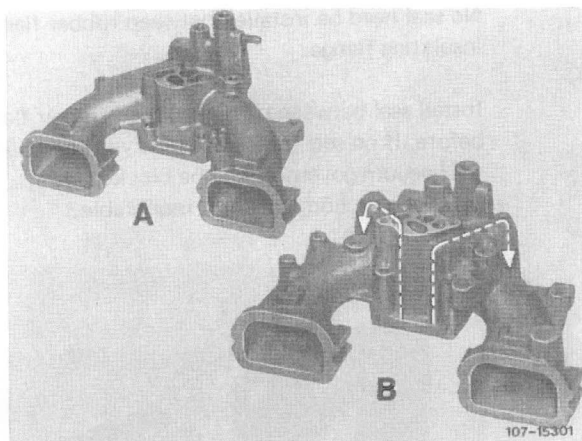

Fig. 170
The new intake pipe (B) is partially provided with double walls (ring jacket). With the engine cold and the heater flap closed, the intake pipe in this range is surrounded by hot exhaust gases (Fig. 170).